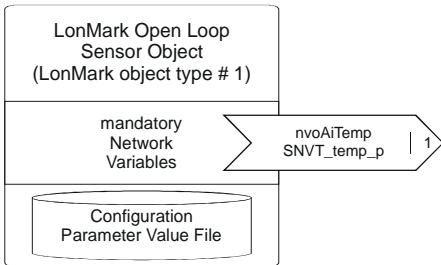

Fig. 6. Open Loop Actuator Object
- un open loop actuator object (#3) (see Fig. 6)